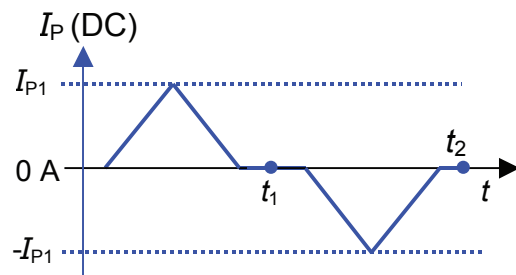

Figure 16: Current cycle used to measure magnetic and electrical offset (transducer supplied)
- or in a known magnetization state, like in the current cycle shown in figure 16.
Using the current cycle shown in figure 16, the electrical offset is: